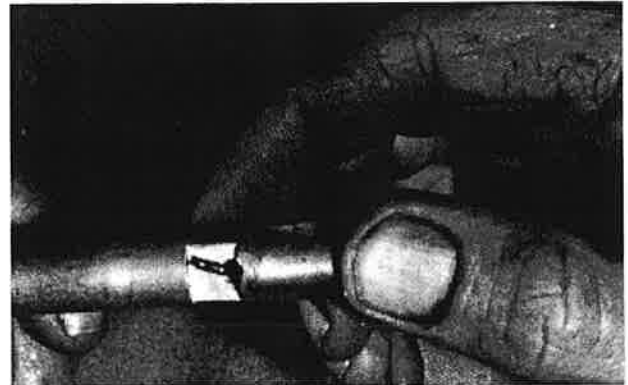

Figure 26. Check U-Wire
- B. Select proper holder pilot, hole saw, and valve adapter from Parts List, Section IV. Be sure that U-wire in holder pilot works freely and moves from side to side by its own weight. See Figure 26.